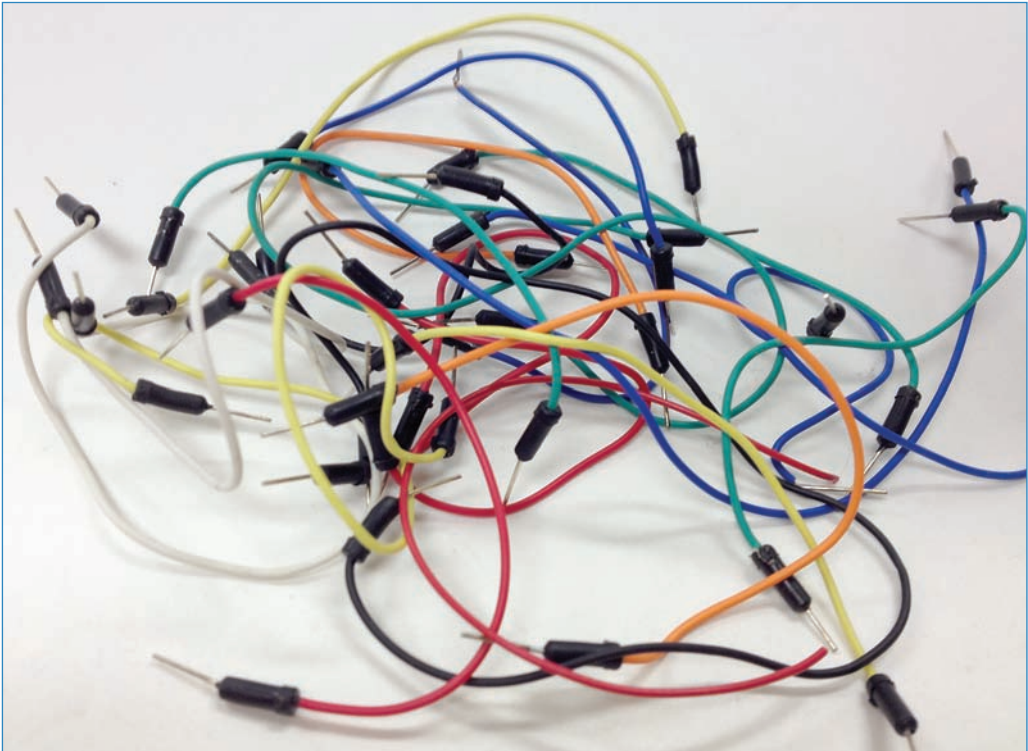

FIGURE 2.3 You can use practically any wires on your breadboard, but wires with pins already attached, as shown here, work the best.
Alternatively, you can purchase specially created jumper wires. These consist of a slender wire—in a variety of colors and lengths—with a connector pin attached to each end, as shown in Figure 2.3. The pins are designed to fit perfectly into the holes of a solderless breadboard, while being durable enough to be reused many times.
4. Connect the bus to the LED’s terminal strip as previously shown in Figure 2.3. As you can see, I have the terminal strip connected to F1.